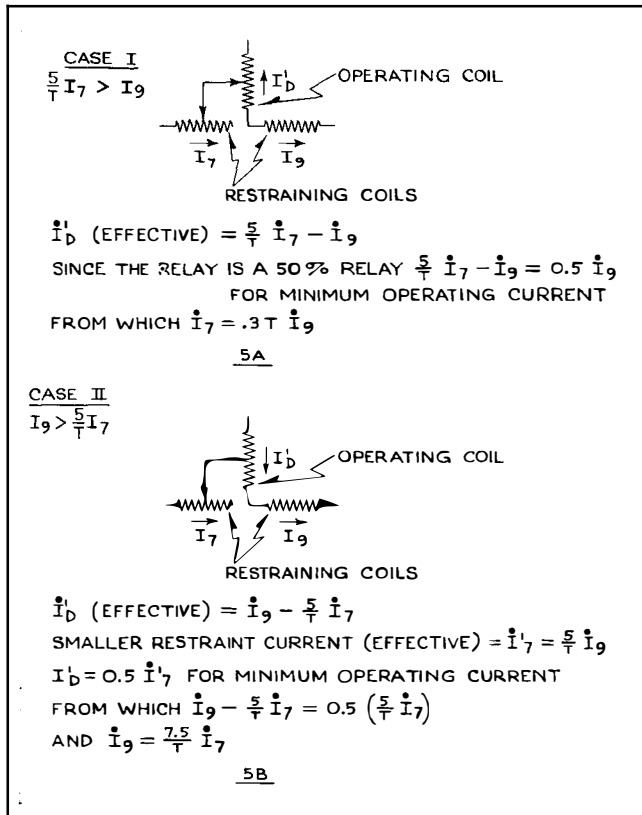

Fig. 5. Fundamental Relationships in the Type CA Electromagnet.
The derivations of equations (1) and (2) are given in Fig. 5, which has been included to illustrate the meaning of these equations.